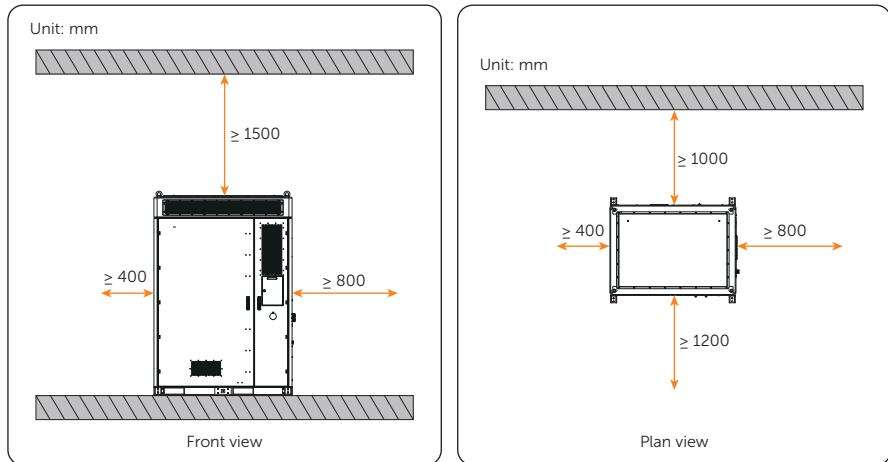

Figure 4-5 Single cabinet
- Single cabinet (see Figure 4-5)